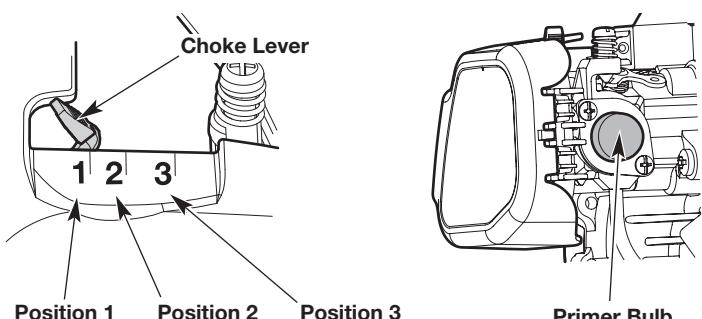

Fig. 13
1. Slowly press and release the primer bulb **10 times** (Fig. 13). If fuel cannot be seen in the primer bulb, press and release the primer bulb until fuel is visible.
2. Move the choke lever to **Position 1** (Fig. 13).
6. Move the choke lever to **Position 2** (Fig. 13).
9. Move the choke lever to **Position 3** (Fig. 13). Allow the engine to warm up for an additional 60 seconds. The unit may be used during this time.
IF... the engine hesitates, return the choke lever to **Position 2** (Fig. 13) and continue the warm-up.